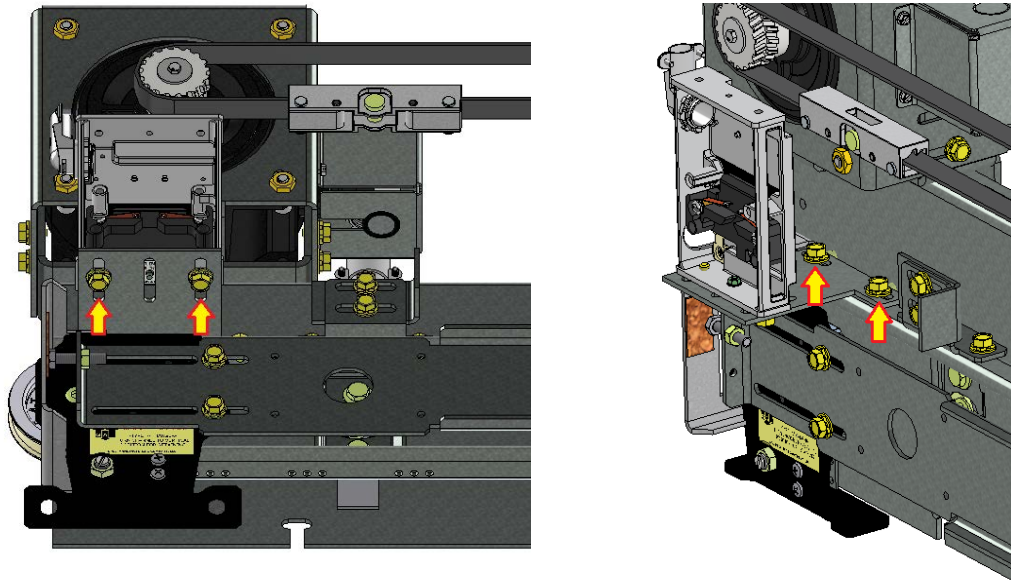

Figure 17: NXTi Mounting
The NXTi interlock is secured with its mounting plate with (4) ¼-20 bolts, as shown on the below in Figure 17.